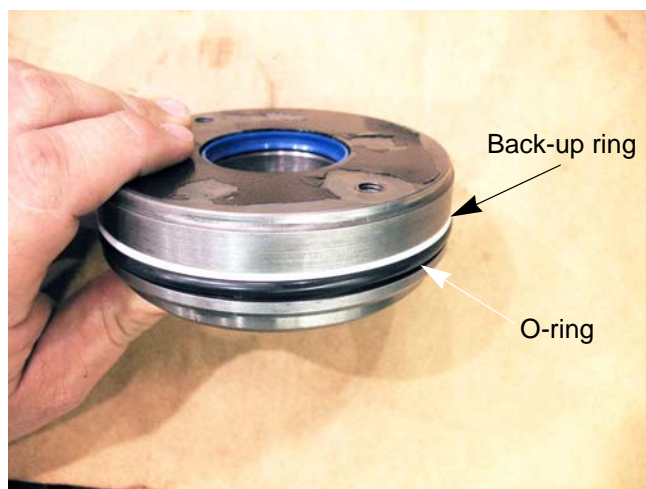

Figure 5.18
32. Carefully pry the O-ring seal out of the groove in the outside diameter of the rod guide. See Figure 5.18.